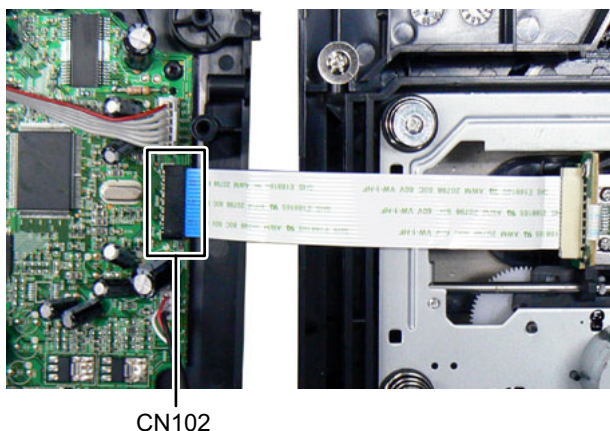

Fig.11
- (6) Disconnect the card wire from CD mechanism connected to connector CN102 of the CD board. (See Fig.11)